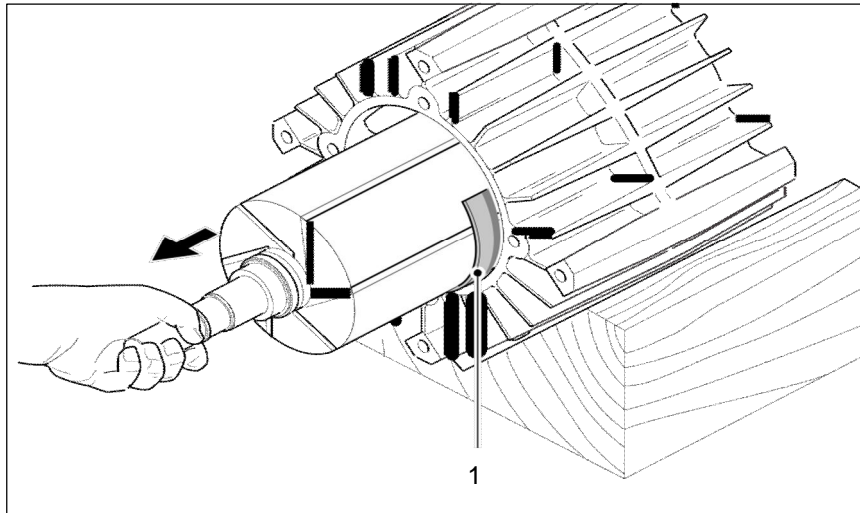

Figure 14. Removing the Rotor Assembly.
1. Protect the body bore from damage by inserting a thin sheet of plastic or card between the body bore and the rotor. Item 1, Fig 14.
2. Withdraw the rotor partially outwards and then support the rotor weight. Continue withdrawing the rotor placing upwards pressure on the shaft end to prevent scoring the body. See Fig 14.